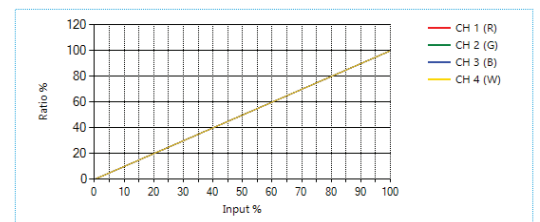

Figure 10: CCT mapping graph
Click **Lock CCT Mapping Table** to prevent changes from being made to the mapping table, this will also update the graph (shown in Figure 10).
*Tip: Scroll to the bottom of the window to see the graph (Figure 10) of the current mapping configuration.*